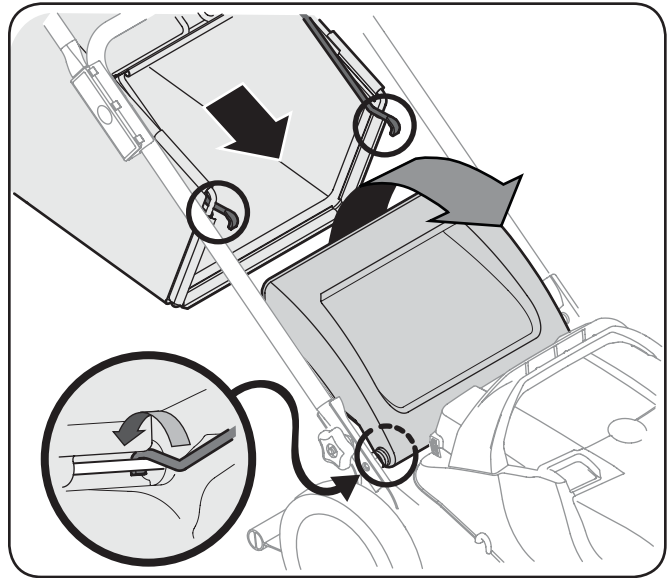

Figure 3-5
- c. Place grass catcher on the pivot rod. Let go of discharge door so that it rests on the grass catcher. See Fig. 3-5.